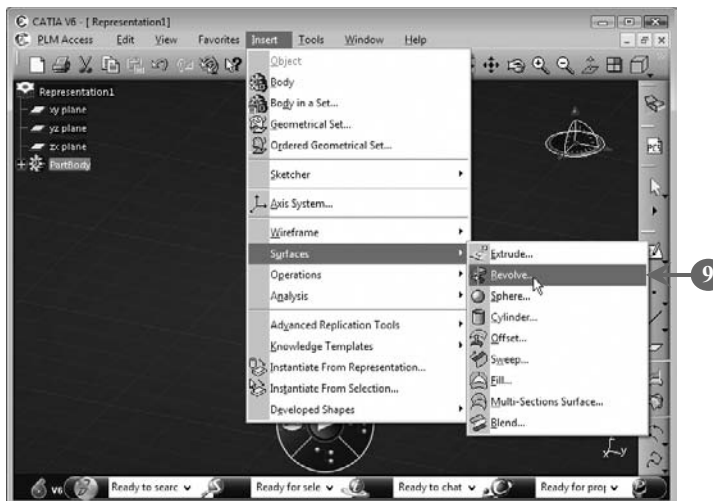

FIGURE 5.37
9. Select **Insert > Surfaces > Revolve** from the menu bar to create the desired revolved surface, as shown in **Figure 5.37**: